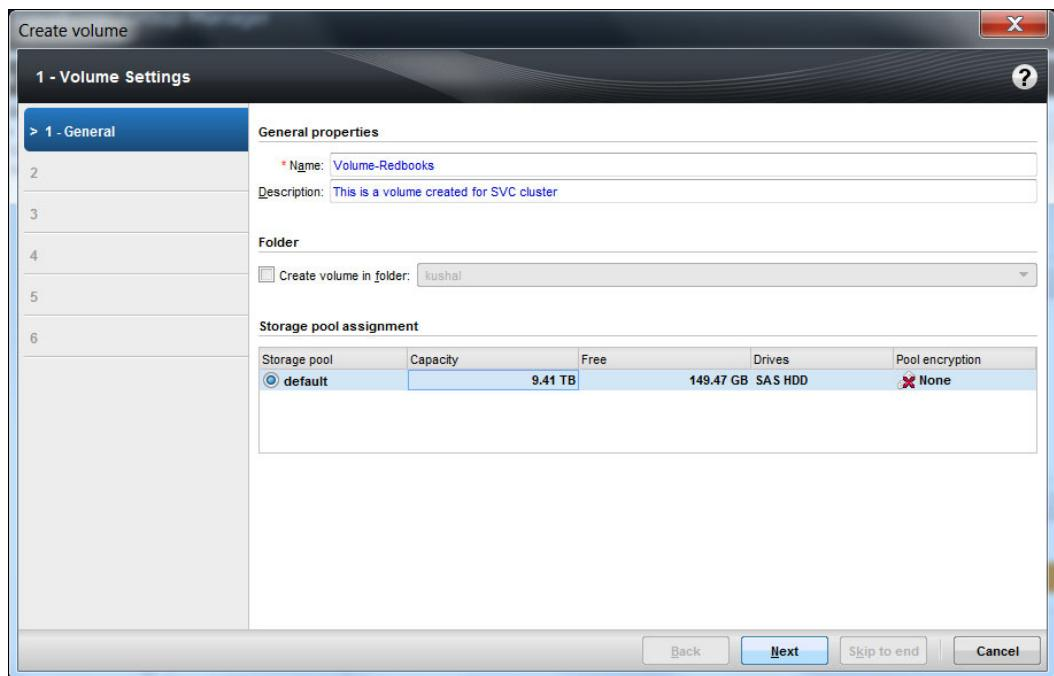

Figure 14-14 Providing Name, optional Description, and storage pool for volume
3. Provide the volume Name and an optional Description. You can optionally select the folder, select the needed storage pool, and click **Next**, as shown in Figure 14-14.